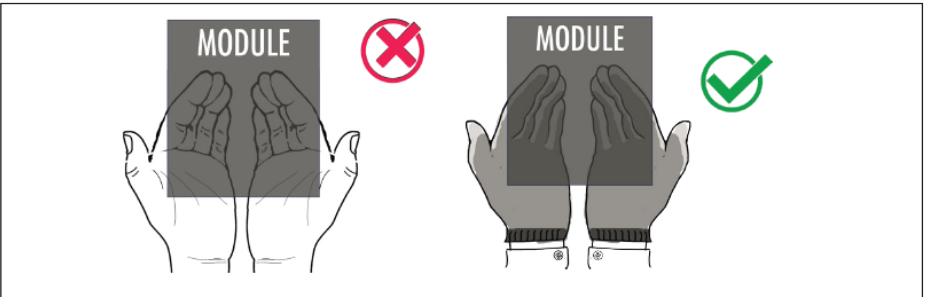

Figure 36: Wear Gloves while Handling Modules
1. Always wear gloves while handling modules. Refer to **Figure 36**.